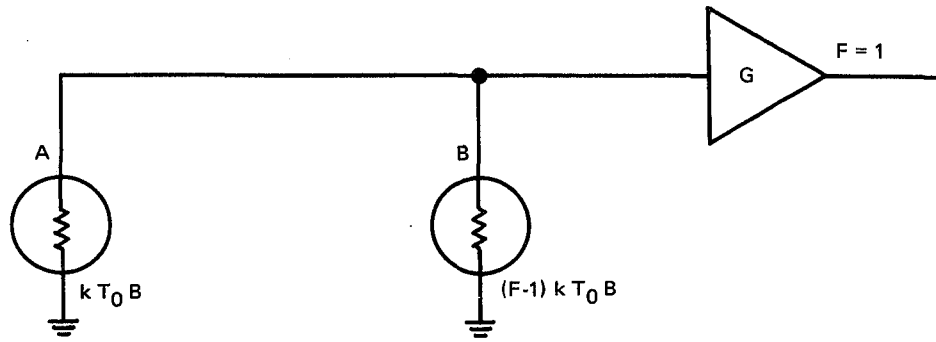
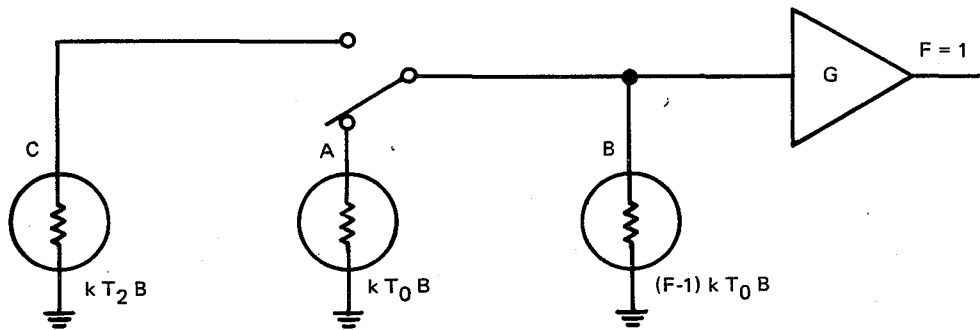

Figure 4-1. Equivalent Noise Representation of a Noisy Network
Figure 4-2. Equivalent Representation of Noise Figure Measurement Set-up
Figure 4-1 is a representation of Equation 4-5. Noise source A is the input termination while noise source B is a fictitious source representing network contribution to the noise output with reference to the input.
4-7. Figure 4-1 can be modified as indicated in Figure 4-2. A switch has been added so that the original input termination (A) can be disconnected and the network input terminated in a second source (C) at temperature T_2 (the temperature of the noise generator).
4-10. The element marked "C" represents the directional coupler through which the noise is injected. T_e is the effective input noise temperature of the receiver and comparison with Figures 4-1 and 4-2 shows that it is related to noise figure by: